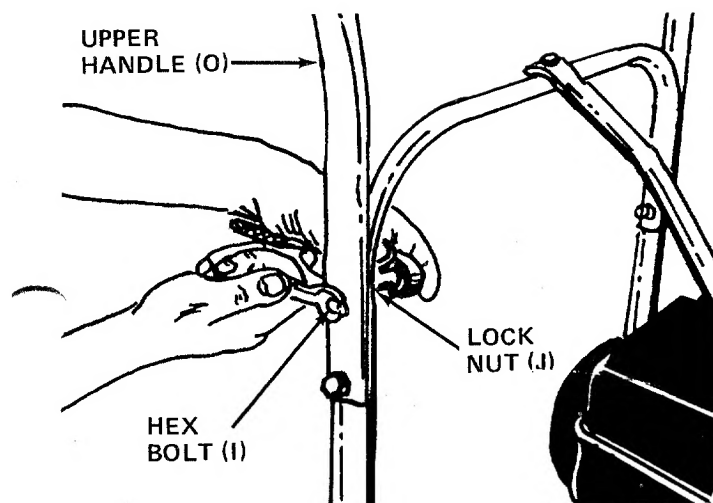

FIGURE 5
2. Place the upper handle (O) in position over lower handle. Fasten with four hex bolts (I) and lock nuts (J) provided. See figure 5. Two 7/16" wrenches are required.